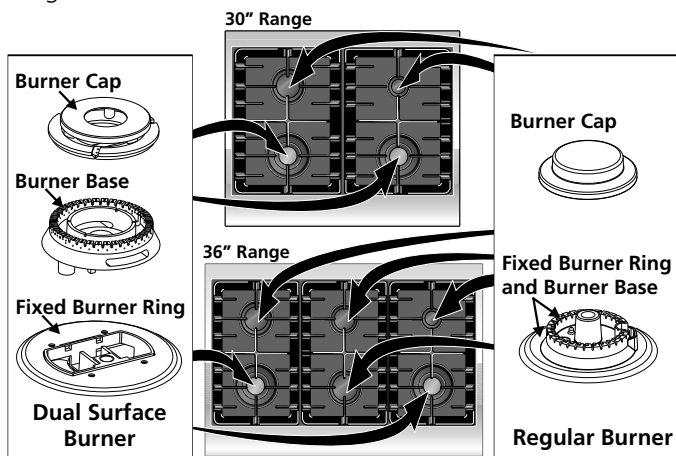
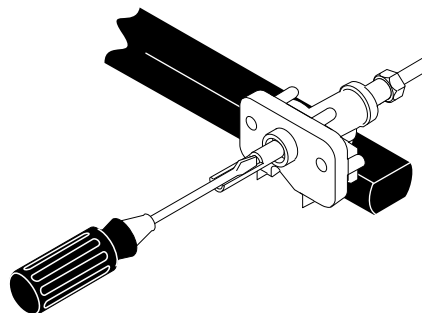
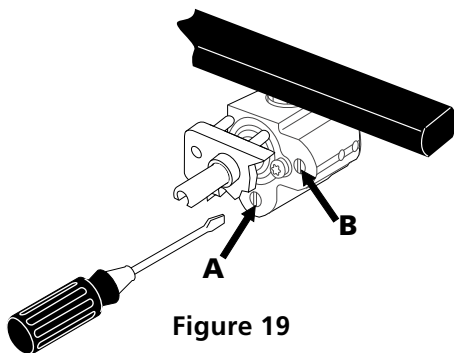

Figure 17
Figure 18
Figure 19
This range is equipped with sealed burners as shown (Figure 17). All pieces are at their place. Take note where they are. **Remove all packaging material located under the Dual Surface burner head.** Make sure the burner is properly aligned and leveled. **NOTE:** There are no burner adjustments necessary on this range.
4. Adjust the "LOW" Setting of Regular Burner (see figure 17) on the Surface Burner Valves (Figure 18):
5. Adjust the "LOW" Setting of the Dual Burner (see Figure 17) on the Surface Burner Valve (Figure 19):
- The inner portion of the dual burner flame size can be increased or decreased by turning screw **A** (see Figure 19). Use screw **B** to adjust the flame size of the outer portion of the dual burner. Turn counterclockwise the screw to increase flame size. Turn clockwise the screw to decrease flame size. Adjust flame until you can quickly turn knob from LITE to LOWEST POSITION without extinguishing the flame. Flame should be as small as possible without going out.